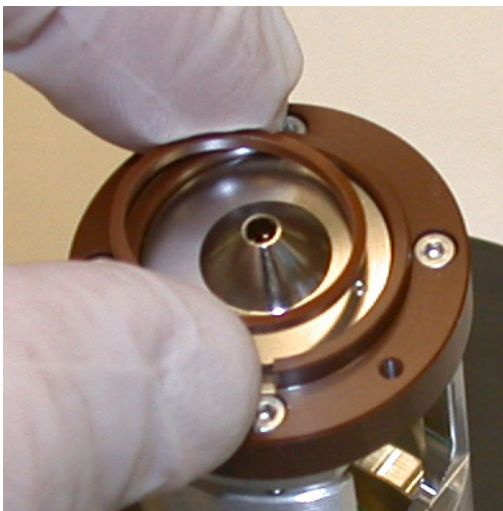

Figure 76 Spacer insulator
- e** Remove the **spacer insulator** (Figure 76).